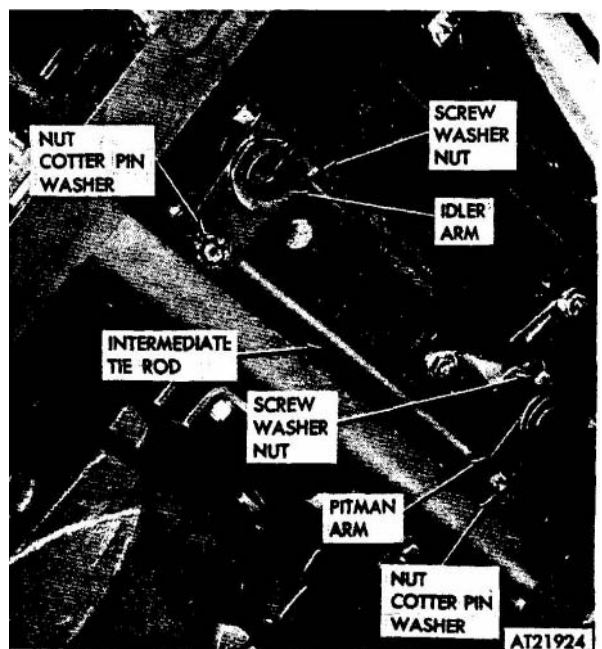

Figure 2-271. Carrier intermediate tie rod (at idler and pitman arms), removal and installation.
(2) Remove cotter pins, washers and nuts securing idler arm and pitman arm to intermediate rod (fig 2-271).
(3) Remove nut, lock washer, and screw securing idler arm to idler housing assembly.
(4) Remove nut, lock washer, and screw securing pitman to steering gear box output shaft.
(5) Disconnect pitman and idler arms from the intermediate tie rod assembly, idler housing and steering gear box. Remove intermediate rod assembly.
(1) Position intermediate rod assembly in its respective location on vehicle.
(2) Position pitman and idler arms on intermediate rod assembly, idler housing, and steering gear box shafts. Secure pitman and idler arms to intermediate rod assembly with two nuts, washers and cotter pins. Secure pitman and idler arms to steering gear box and idler housing shafts with two screws, lock washers, and nuts (fig 2-271). Torque nuts to 95-120 lbs-ft.